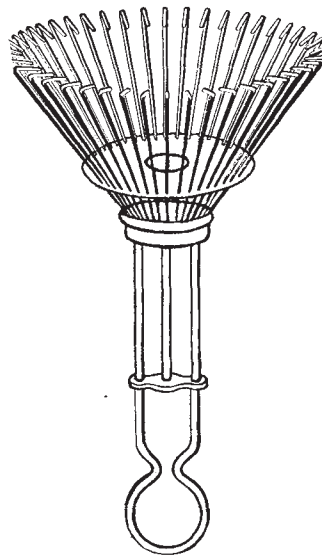
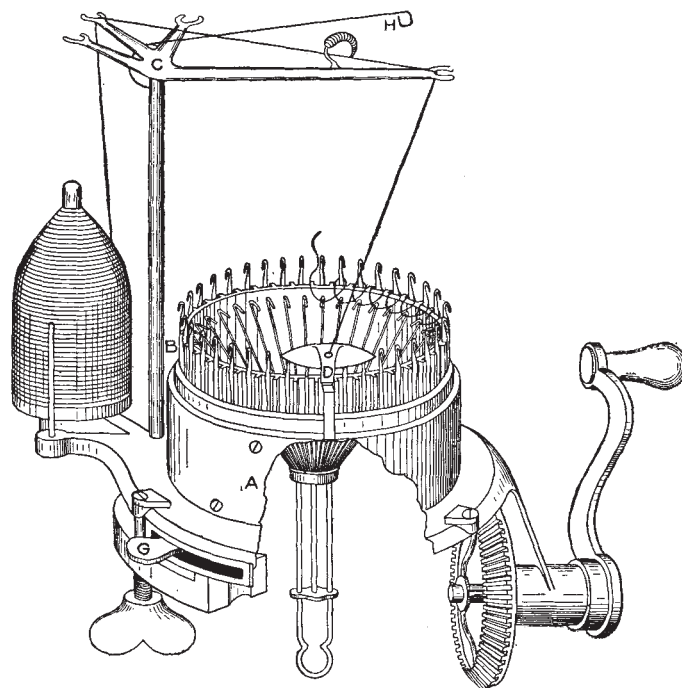

Fig. 121. Set-Up.
Fig. 122. Setting Up Work.
**Setting-Up the Work.** Turn the machine until the yarn carrier is directly in front of the machine. Have all the needles lying down all around the machine. Expand the set-up (See Fig. 121) so that the hooks rest against the inside of the needle cylinder as illustrated in Fig. 122. They should be held a little below the upper edge of the cylinder. Place the yarn in the yarn guide correctly and draw through the carrier; drawing through about a yard (enough to set up the first round, or course of stitches). Take the yarn between the thumb and finger close to the yarn carrier and put it under one of the hooks of the set-up,
then bring it up and around one of the needles in the machine close to the yarn carrier. (See Fig. 122). Always bring the yarn around the needle from the right to the left, and then down under the next hook of the set-up, and so on around each. This is continued on each needle until the needles down in the cams are reached, then hook the weights into the ring in the wire underneath the set-up and turn the machine